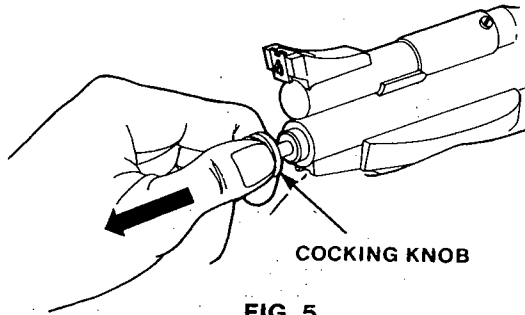

FIG. 5
- B. Pull the cocking knob all the way back until you hear two clicks and then release it. (Fig. 5)